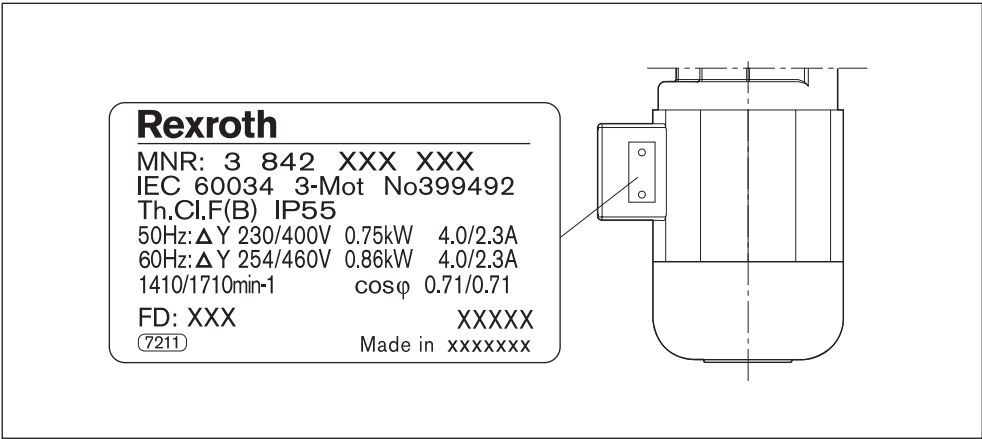

Fig. 182: Motor nameplate (example)
- ▶ Connect the motor in either a wye or a delta connection in accordance with the wiring diagrams (see Fig. 182 on page 192, and the wiring diagram in the terminal box).
Switch any two wires (U1, V1 or W1, see Fig. 182 on page 192).